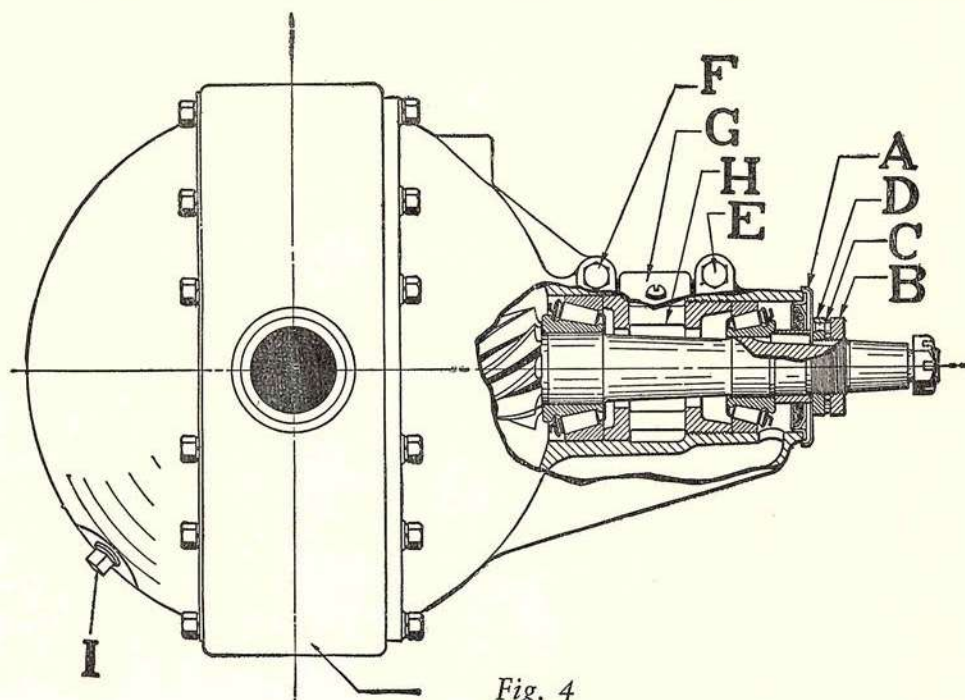

Fig. 4
First, check the lubrication in differential housing by removing oil level plug (I, Fig. 4). The lubricant must always be kept to this level.
1. Take hold of washer (A-Fig. 4) which is locked by a tongue fitting into keyway in pinion shaft. If the washer shows slightest movement when turned back and forth by hand, there is end play in pinion bearings.
2. Loosen nut (B) and back it off far enough to allow removal of lock washer (C) from the dowel in nut (D). This will permit adjustment to be made with adjusting nut (D).
3. Draw up on nut (D) until all bearing play is taken up and no movement of washer (A) is noticeable; then replace lock washer (C) in position, making sure that it fits properly over the dowel in nut (D); finally draw up on outer nut (B) until snug, but not to a strained position.